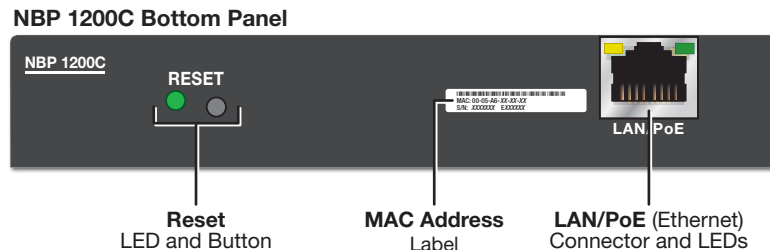
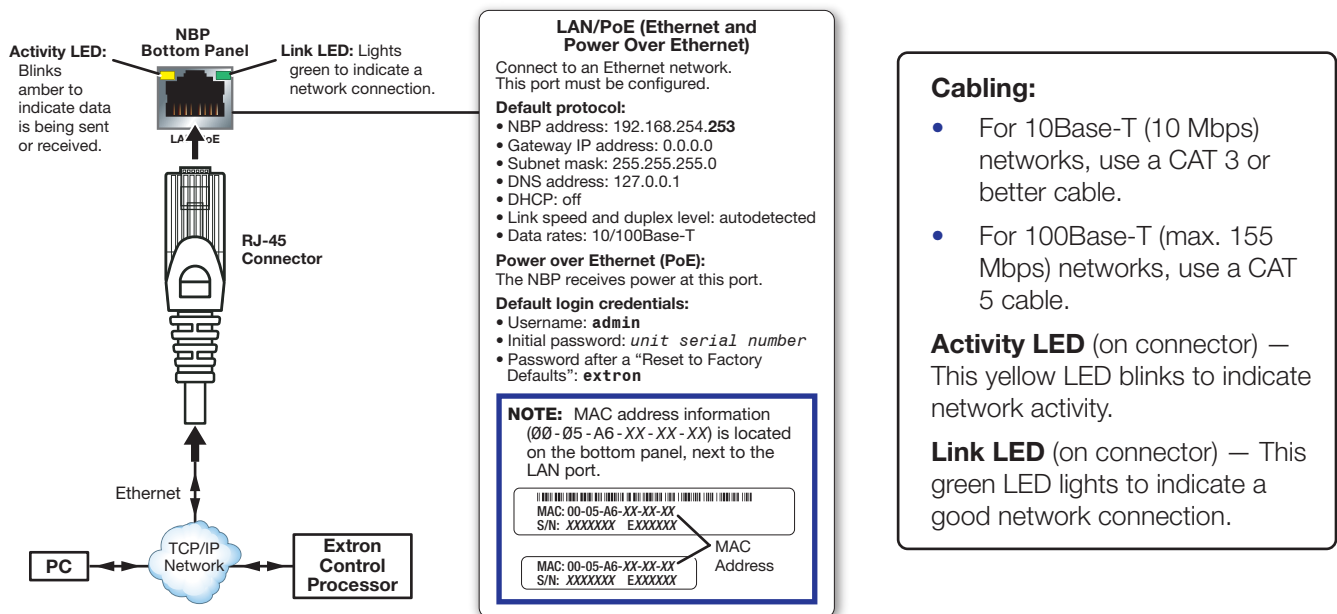

Figure 33. NBP 1200C Bottom Panel Features
Figure 34. NBP 1200C LAN/PoE Port Details
2. Connect the NBP to the network via the LAN/PoE port on the bottom panel of the NBP 1200C (as shown in figure 33). Port details are shown in figure 34.
Details of LAN/PoE port connection, LED behavior, protocol, addresses, and credentials are shown in figure 34.
MAC address — This is the unique user hardware ID number (Media Access Control [MAC] address) of the unit (for example, 00-05-A6-05-1C-A0). You may need this address during configuration. The label is on the bottom panel of the NBP 1200C (as shown in **figure 33** on page 33).